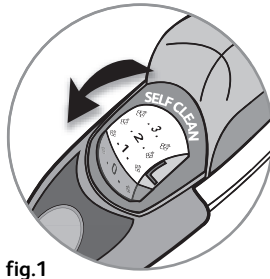

fig.1
- Unplug your iron before filling it and set the steam control to  (fig.1). **Fill the tank up to the "MAX"**